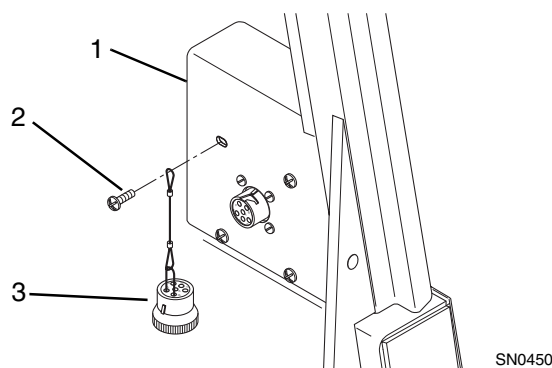

Figure 9-73 Fuse Block Cover
- t. Install the fuse block cover (Fig. 9-73, 1) using the original hardware (2). Use one of the top mounting screws (2) for installing the tethered jumper harness connector (3).